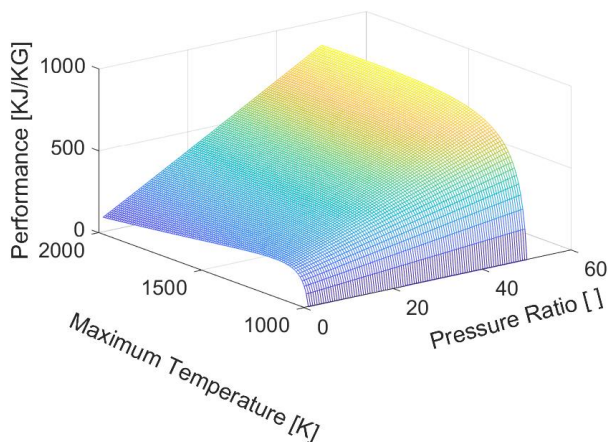

Figure 5 - Varying performance with changes in compressor pressure ratio and combustor maximum temperature
- Figure 5 combines the concepts seen before but in a 3D display. You can see that performance is affected logarithmically with respect to the pressure ratio, and affected linearly with maximum temperature, showing a nearly flat curves surface for the majority of the plot as the pressure ratio affect levels out.